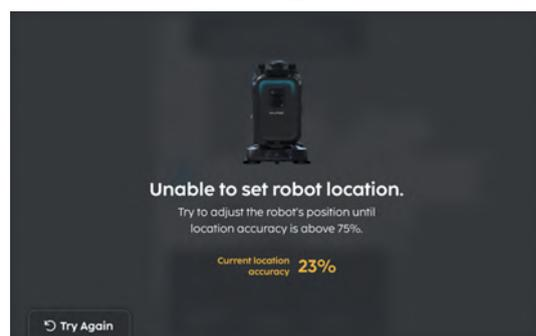

FIGURE 6-5
3. If localisation fails, check that you are at the correct spot and select 'Try Again' (Fig. 6-5).